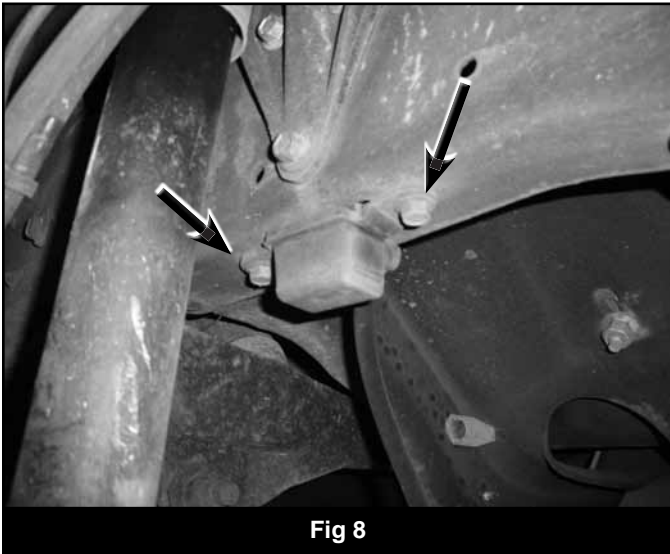

Fig 8
19. Remove the factory front bump stops from the frame rails (Fig 8). Locate the provided rectangle bump stop spacers (01027) and place between the factory bump stops and the frame rail. Align the holes in the bump stop and spacer with the original frame mounting holes and fasten with the provided 10mm x 110mm bolts and washers (BP 441) into the captive nuts in the frame (Fig 9) . Use Loctite on the bolt threads and torque bolts to 30 ft-lbs.